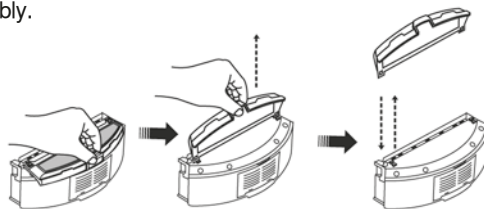

Figure 9
6. Reverse the dust bin, tear out the mop, release the trailing bar and then unplug the right and left fasteners on the bottom of the dust bin (Refer to Figure 8 and Figure 9). All parts should be assembled as before disassembly.